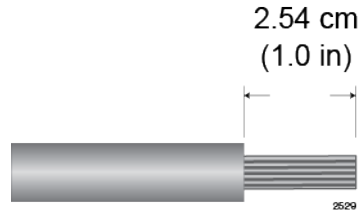

Figure 151. Stripping Solid or Stranded DC Power Wires
1. Prepare adequate lengths of two solid or stranded 8 AWG DC power wires by stripping them as shown in Figure 151.